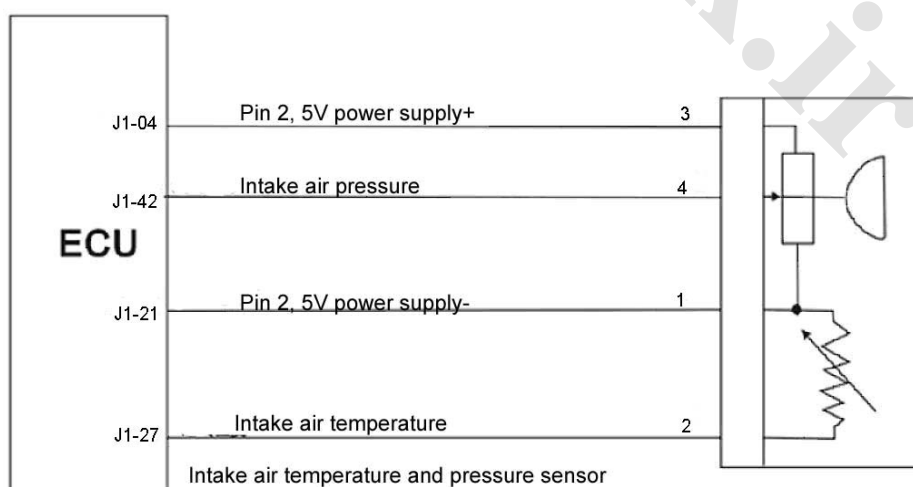

Fig. 1-2
**(1) Function:** Measure the absolute pressure of the 0.1~0.2bar intake manifold and the temperature of the intake air flow, and provide load information for the engine.
**(2) Structure and principle:** The sensor consists of intake manifold absolute pressure sensor and intake air temperature sensor, which is installed on the pressurizer tank.
**(3) Intake air pressure sensor:** made by a silicon chip. There is a pressure diaphragm on the silicon chip and are 4 piezoelectric resistances on the diaphragm. The 4 piezoelectric resistances build up a wheatstone bridge. Besides the pressure diaphragm, there is also a signal process circuit on the chip. The silicon chip and a metal housing build up a closed referential space, in which the absolute pressure of the air is approximately zero. Then, a microelectronic mechanical system is established. There is a zero pressure on the active side of the silicon chip and an absolute pressure of the intake manifold on the back side of the chip. The thickness of the silicon chip is only several microns ( $\mu\text{m}$ ), and the form of the chip will be mechanically changed with the change of the absolute pressure of the intake manifold. Then, the 4 piezoelectric resistances and their resistance values will be also changed. After treated by the signal process circuit on the chip, the pressure signal, which is linearly related to pressure, will be formed.
**(4) Intake air temperature sensor:** Made by a resistance with negative temperature coefficient (NTC). Similar to water temperature sensor, the resistance value will decrease with the increase of the intake air temperature. The change of the intake air temperature will be supervised and measured by a comparative electric circuit within the ECU.
#### **(5) Connection of wiring diagram (Fig. 1-2)**